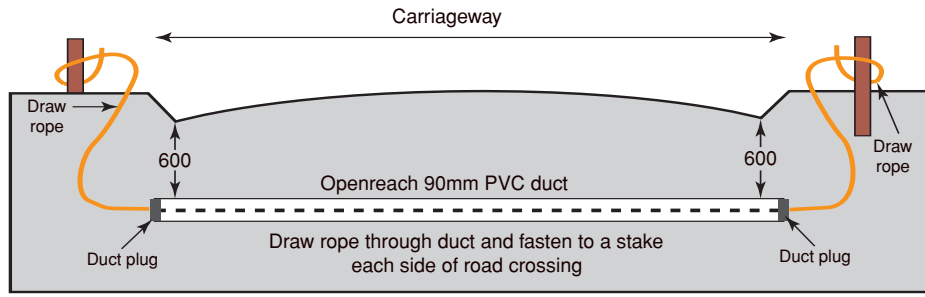

Fig 1
- Where Openreach duct crosses the carriageway, adjoining kerbs are to be marked temporarily denoting location of duct positions (see Fig 1).
- A drawrope is necessary. It is to be inserted through the duct and secured to the marker posts at both ends of the crossing to facilitate future cabling operations. The appropriate duct plug should be fitted to either end of duct (See Fig 1).